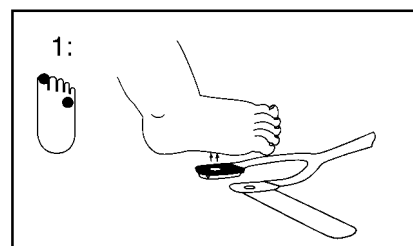

Fig. 27 Positioning the sensor
- 1 Open the packaging and remove the sensor. Hold the sensor at the stem of the Y and remove the protective cover from both the sensor and the adhesive strip. Align the end of the sensor so that the contacts point away from the patient. Align the receiver along the fourth toe and press it against the sole of the foot (Fig. 27).